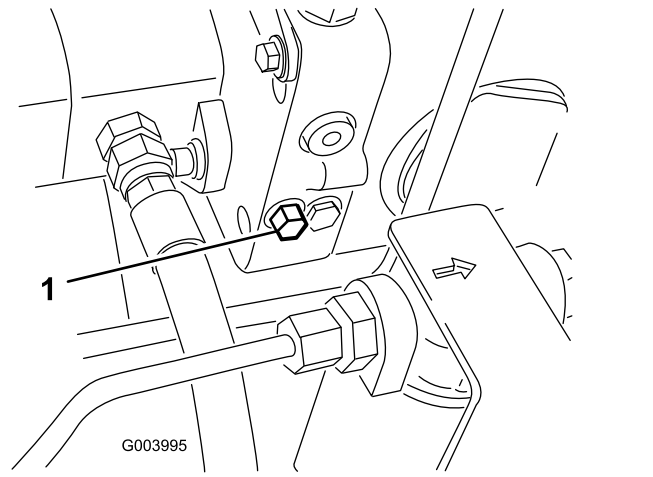

Figure 34
1. Rotate the bypass-valve bolt 1-1/2 turns to open and allow oil to bypass internally (Figure 34).